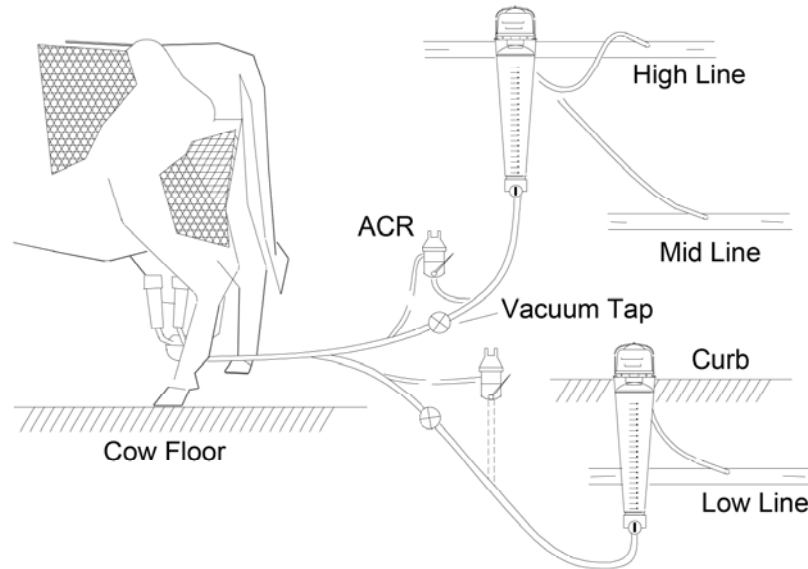

Fig 4.1 Installation of Milk Meters
4.1. LOCATION (refer to Fig 4.1)